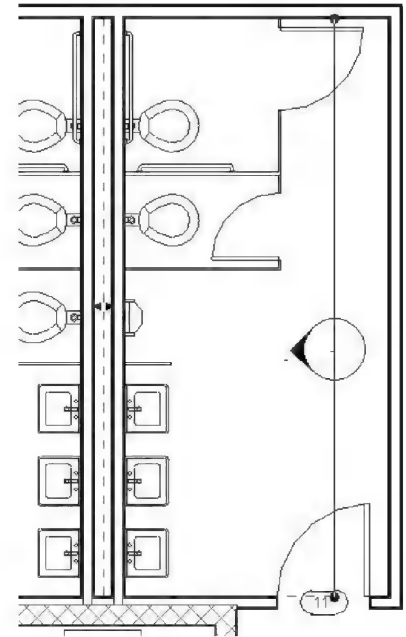

FIGURE 11-1.7 Elevation tag added
15. Switch to **Level 1** and place an interior **Elevation** tag looking towards the west wall (wall with fixtures on it); see Figure 11-1.7.